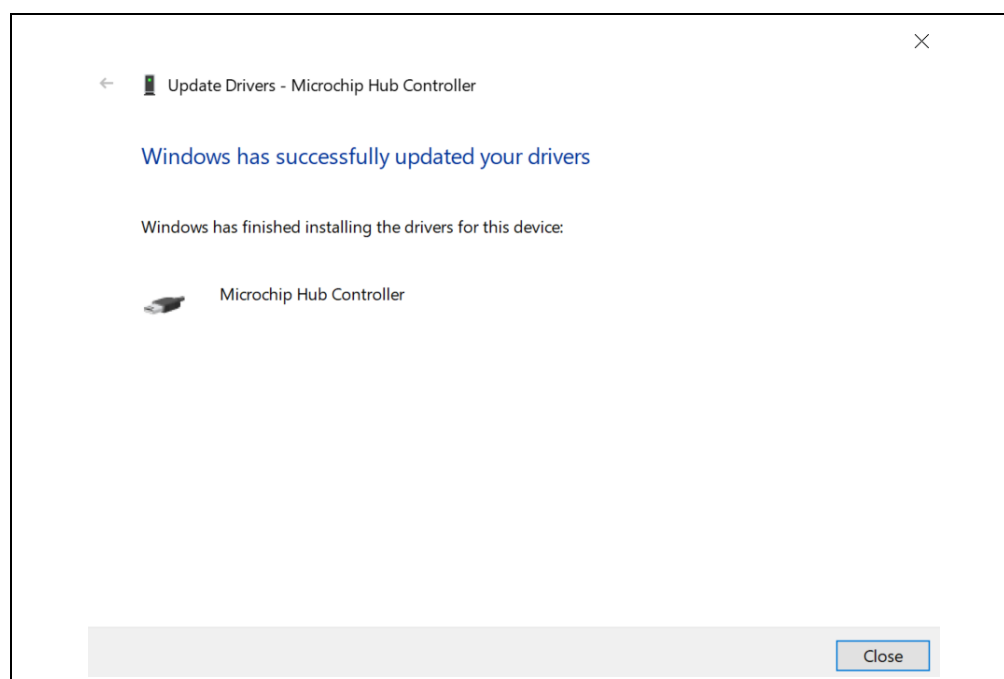

FIGURE 2-9: *USB Driver Installation Verification Screen.*
12. After successful installation, the window shown in Figure 2-9 will appear. This verifies that you have installed the USB driver.